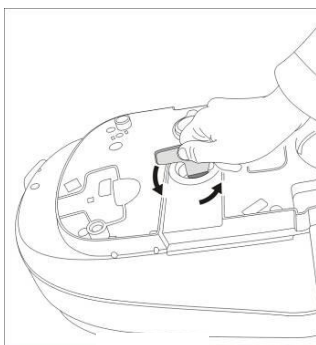
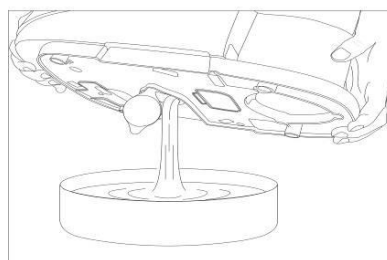

Fig 8
Fig 9
6. Unscrew the boiler cap by using the provided key and empty out any water as fig 8 and Fig 9
8. Shake the appliance gently then empty out all the water as Fig 9